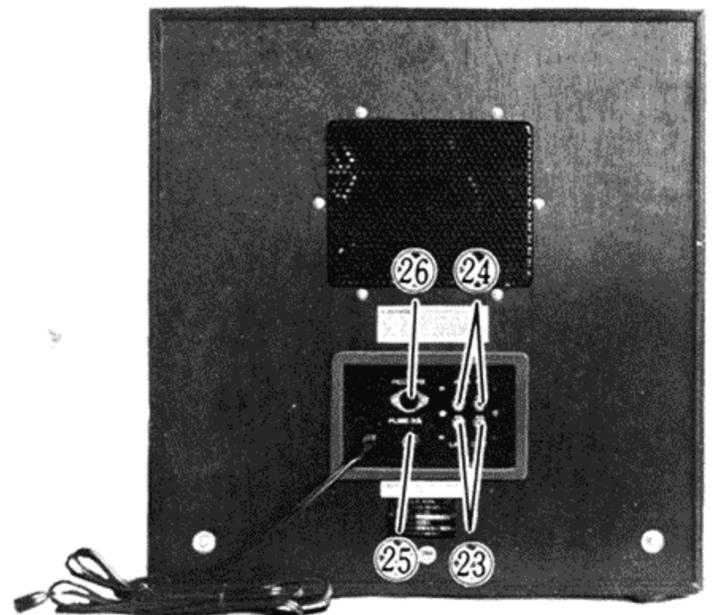

Fig. 3
1. Removing the top panel (Fig. 3)